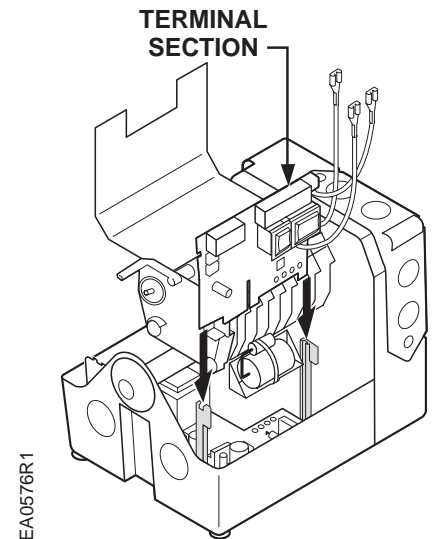

Figure 21.
6. Gently guide the terminal section into the support slots and slide the terminal board downward until both supports snap into place. Ensure that the four brown wires and the flat white connector cable which connect the two circuit boards are positioned correctly in their respective corners allowing the board to freely slide into place without pinching either wire. See Figure 21.